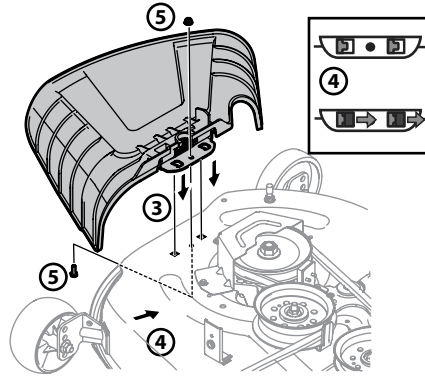

Figure 2-7
3. Place the chute deflector on the deck, be sure to insert the tabs on the chute deflector into the holes on the deck. See Figure 2-7.
4. When the tabs are installed in the deck, slide the chute deflector toward the rear of the tractor until the bolt hole in the chute deflector aligns with the hole in the deck. See Figure 2-7.
5. Secure the chute deflector in place with the flange lock nut and hex screw removed in step 2. Tighten to 102-124 in-lbs. See Figure 2-7.